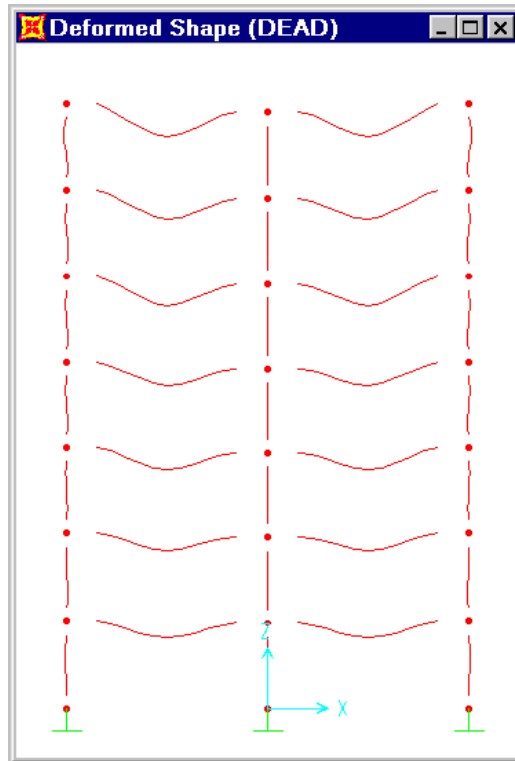
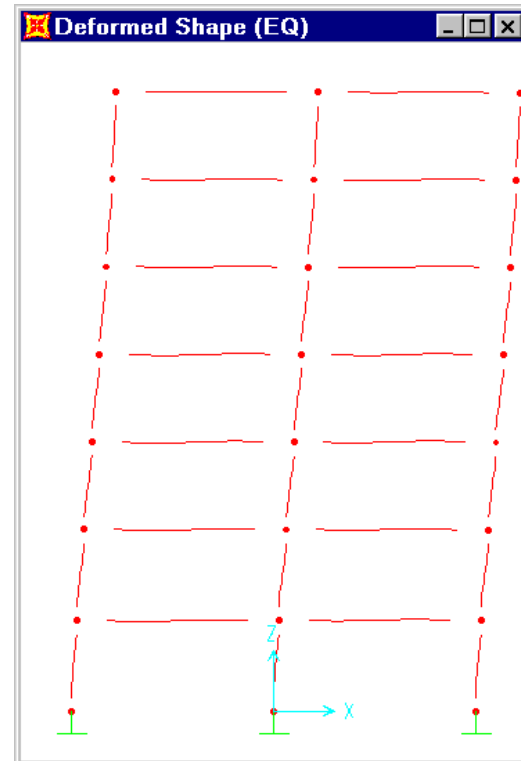

Figure 1-3 Static Deformed Shape
Figure 1-4 Lateral Deformed Shape
- From the **Display** menu select **Show Deformed Shape** and select the loading case in which you are interested. Also select the **Wire Shadow** option, so you can see the undeformed structural shape. See Figure 1-3 and Figure 1-4 for the deformed shapes of the structure. Right click on any joint to see its displacement and rotation.